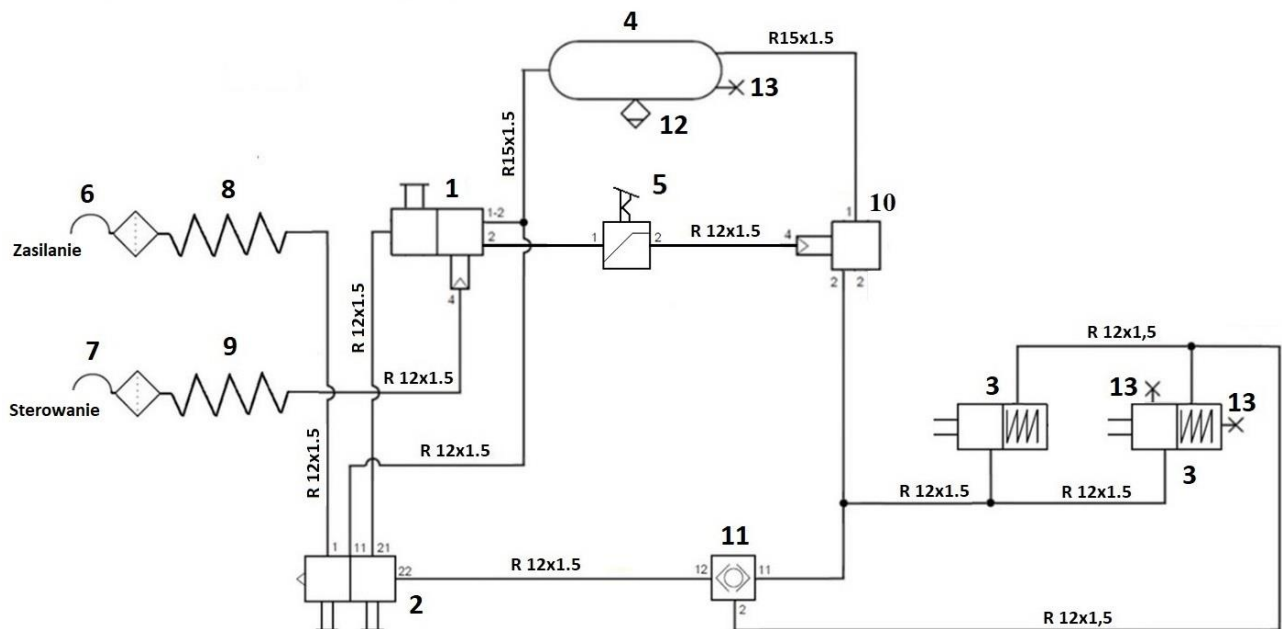

Fig. 14. Pneumatic brake system with manual brake force regulator and diaphragm-spring actuators.
The spreader is equipped with a 2-line air brake system with a manual brake force regulator and diaphragm-spring actuators – Figure 14. The brake is activated from the driver's seat by pressing the brake pedal of the tractor. The pneumatic control valve (1) enables the spreader's brakes simultaneously with the tractor's brakes. In the event of an accidental disconnection of the lines (8) and (9) the control valve will automatically activate the brakes of the machine.